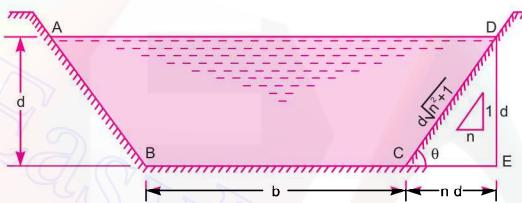

Fig. 16.10 Trapezoidal section.
**16.5.2 Most Economical Trapezoidal Channel.** The trapezoidal section of a channel will be most economical, when its wetted perimeter is minimum. Consider a trapezoidal section of channel as shown in Fig. 16.10.
But from Fig. 16.10,  $\frac{b+2nd}{2}$  = Half of top width